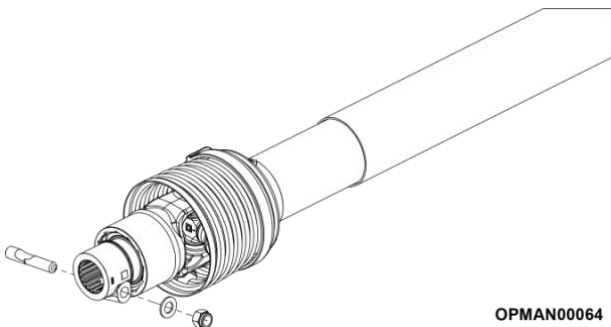

Figure 4.12 – Remove Taper Pin
4.5.1.8 To then completely remove the shaft, remove the taper pin, flat washer and nut from the machine end; see Figure 4.12.